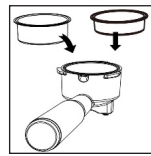

Fig. 5
- Install one of the coffee filters (26) into the filter holder (4) matching the ledge on the filter (26) with the hole on the holder (4) and turn the filter (26) counter/clockwise (fig. 5). Do not add ground coffee into the filter (22) when preparing the coffee maker for work.